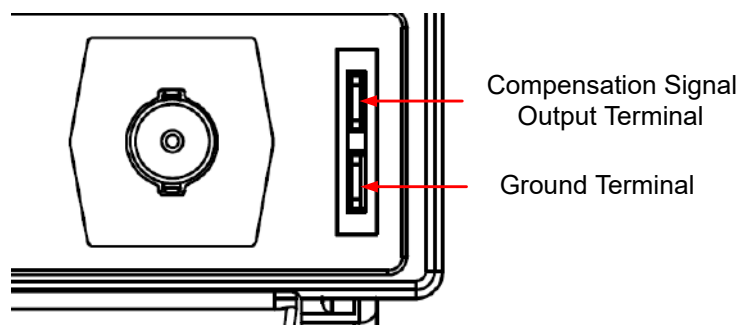

Figure 4.7 Using the Compensation Signal
2. Connect the ground alligator clip of the probe to the "Ground Terminal" as shown in *Figure 4.7*.
3. Use the probe to connect the input terminal of CH1 and the "Compensation Signal Output Terminal" of the probe, as shown in *Figure 4.7*.